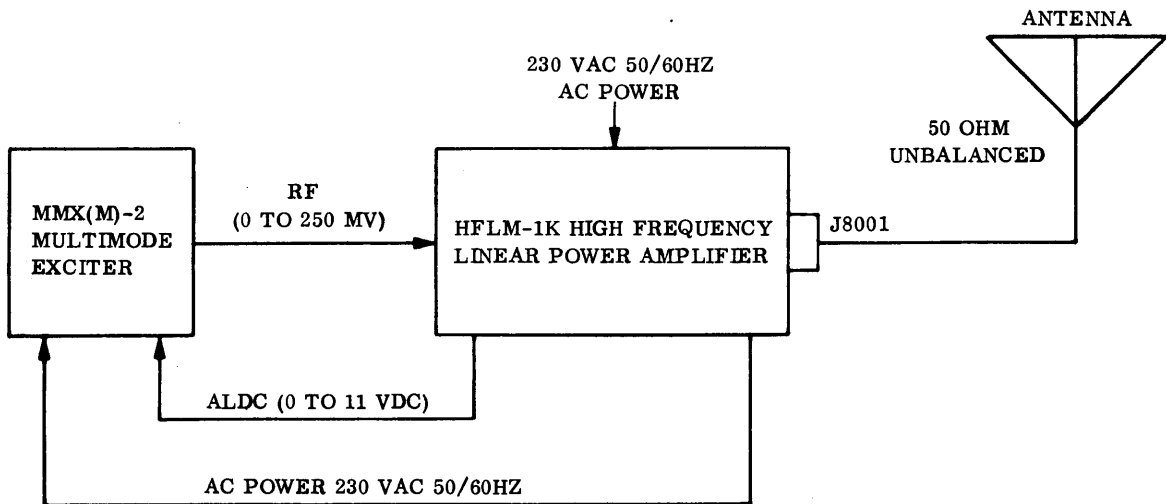

Figure 4-1. HFTM-1KJ Overall Block Diagram
Figure 4-1 is an overall block diagram of the HFTM-1KJ which consists of an MMX(M)-2 Multimode Exciter driving an HFLM-1K Linear Power Amplifier. The MMX(M)-2 provides at least 100 milliwatts of rf power to the HFLM-1K within the operating range of 1.5 to 30 MHz in any one of the following modes: AM, AME (carrier reinserted), SSB, ISB, CW, FSK, or FAX. The HFLM-1K provides linear amplification of the MMX(M)-2 rf output and provides one kilowatt PEP within the operating frequency range of the transmitter. The transmitter rf output is applied to a transmitting antenna which matches the 50 ohm output impedance of the HFLM-1K.
- a. Overall block diagram (Section 4, figure 4-1)